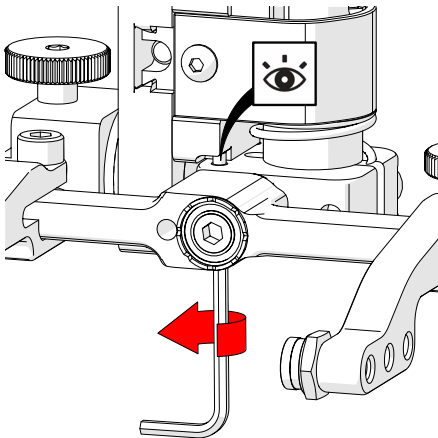

Fig. 127 - Raise opposite 90° stop post
8. Raise the stop post on the opposite side until the side of the post contacts the 90° stop point on the probe holder's base (Fig. 127).